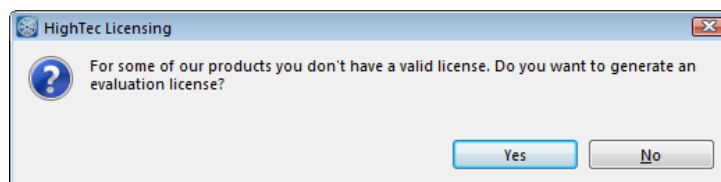

Figure 7 HighTec Licensing dialog
6. The HighTec Licensing dialog appears (Figure 7)